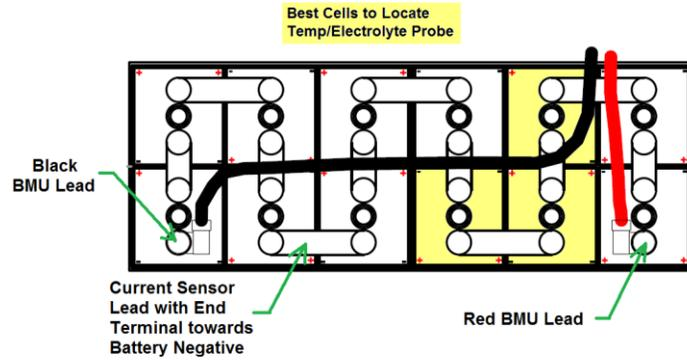

Figure 1
- 2) Consult figures 1, 2 or 3 to determine best intercell connector to locate the current sensor on for your battery cell count and tray layout. **Note that it is recommended to install the current sensor at least 9 cells from the positive cable connection.**
- 9) Consult figures 1, 2 or 3 to determine best cell in which to locate the electrolyte/temperature sensor on for your battery cell count and tray layout